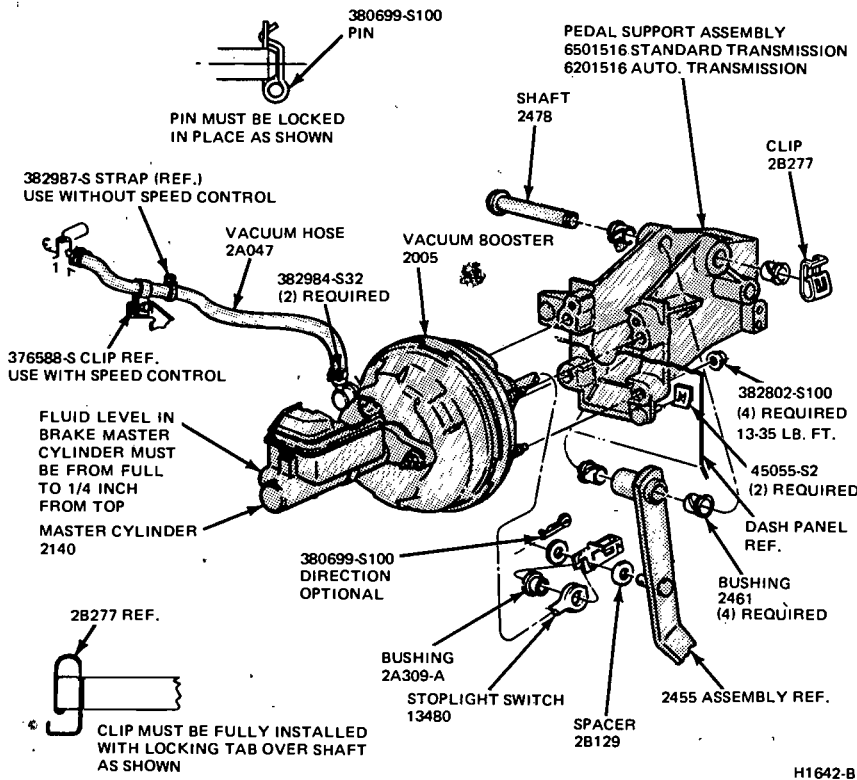

FIG. 15 Master Cylinder and Brake Pedal Installation—Power Brake—Ford, Mercury and Meteor
enough for the switch outer hole to clear the pin, and then remove the switch from the pin. Be careful not to damage the switch during removal. Slide the booster push rod and the nylon washers and bushing off the brake pedal pin (Figs. 15 thru 17).
4. Remove the booster-to-dash panel attaching nuts or bolts (Figs. 15 thru 17). Remove the booster and bracket assembly from the dash panel, sliding the push rod link out from the engine side of the dash panel.
1. Mount the booster and bracket assembly to the dash panel by inserting the push rod or push rod link in through the hole and boot in the dash panel. Install the bracket-to-dash panel attaching lock nuts (Figs. 15 thru 17).
Install the inner nylon washer, the booster push rod, and the bushing on the brake pedal pin. Position the switch so that it straddles the push rod with the switch slot on the pedal pin and the switch outer hole just clearing the pin. Slide the switch completely onto the pin, and install the nylon washer as shown in Figs. 15 thru 17. Be careful not to bend or deform the switch. Secure these parts to the pin with the hairpin retainer. Connect the stop light switch wires to the connector, and install the wires in the retaining clip.